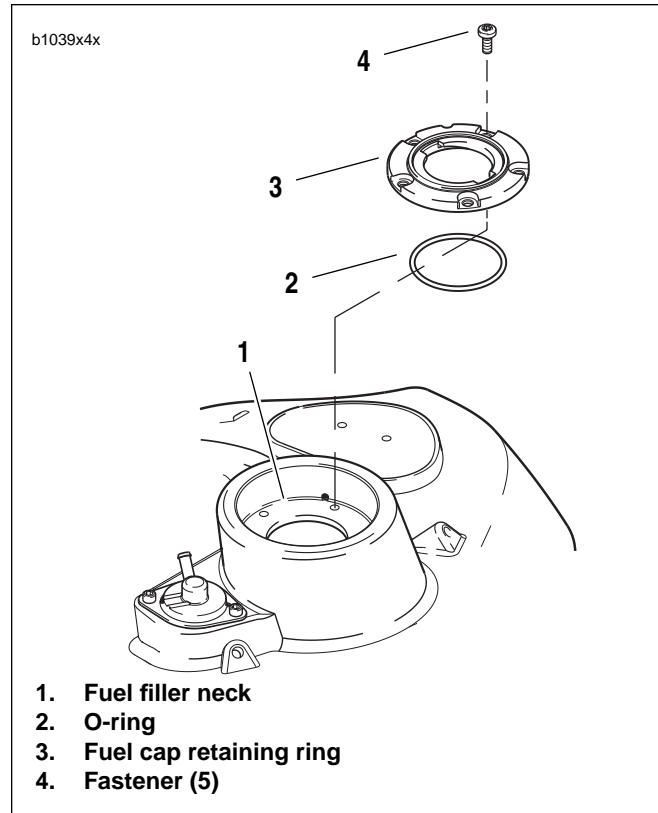

Figure 4-103. Fuel Cap Retaining Ring
3. See Figure 4-103. Remove fasteners (4) securing fuel cap retaining ring (3) to fuel filler neck (1).
4. Remove fuel cap retaining ring and o-ring (2). Discard o-ring.